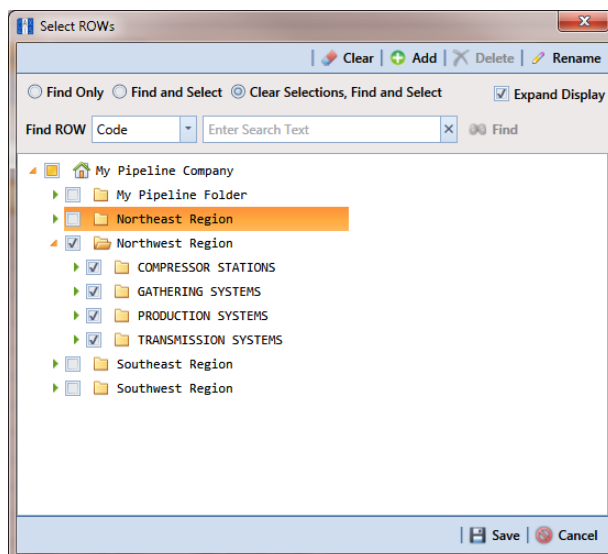

Figure 15-27. Select ROWs
- 1 Select one or more pipeline segments in the *Select ROWs* window. Choose pipeline segment(s) with facilities you want to include in the report. Click  **Save** to close the window (Figure 15-27).
- 1 Select one or more pipeline segments in the *Select ROWs* window. Choose pipeline segment(s) with facilities you want to include in the report. Click  **Save** to close the window (Figure 15-27, page 606).